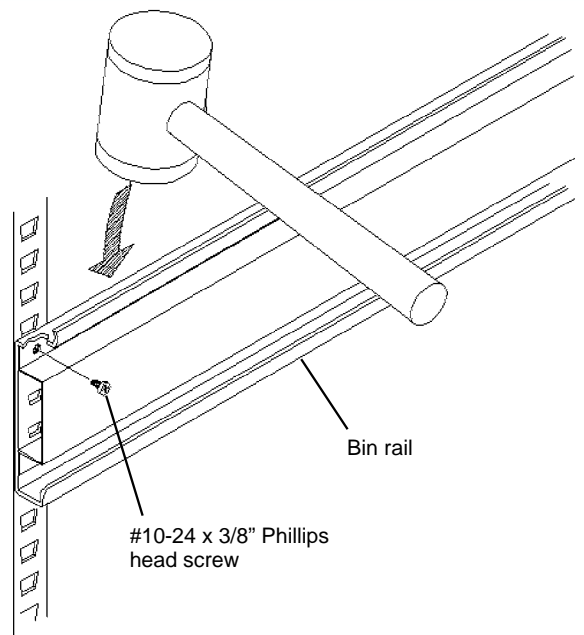

Figure 2
1. Select the desired height for the **Bin Rail**. Attach the Bin Rail to the frame by inserting the hooks on the back of the Bin Rail into the trapezoidal slots in the Full Frame. See **Figure 1**. To assure that the hooks are fully seated, tap the top rear corners with a plastic mallet. See **Figure 2**.
2. Drive one #10 Phillips head screw (provided) into each end of the Bin Rail to lock it in place. See **Figure 2**.